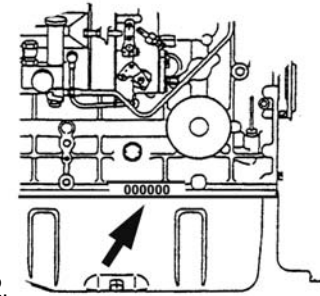

Fig. 1.2.
- Markings stamped on the engine showing serial number (see Fig. 1.2)